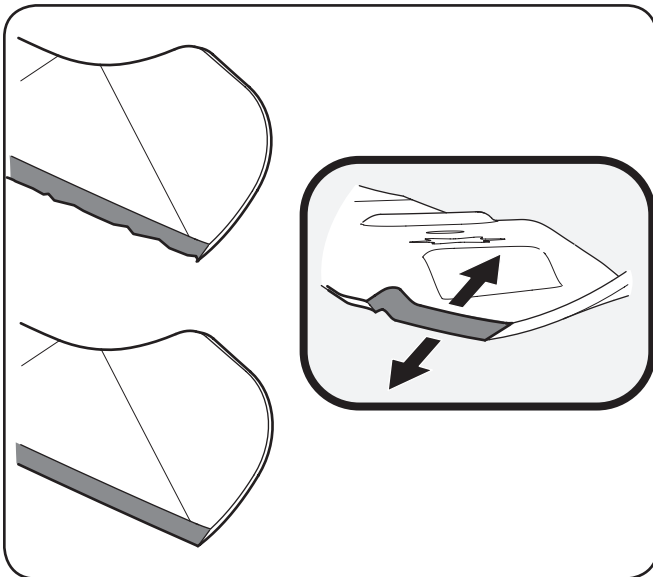

Figure 7-6
- To properly sharpen the cutting blades, remove equal amounts of metal from both ends of the blades along the cutting edges, parallel to the trailing edge, at a 25-30° angle. Always grind each cutting blade edge equally to maintain proper blade balance. See Figure 7-6.